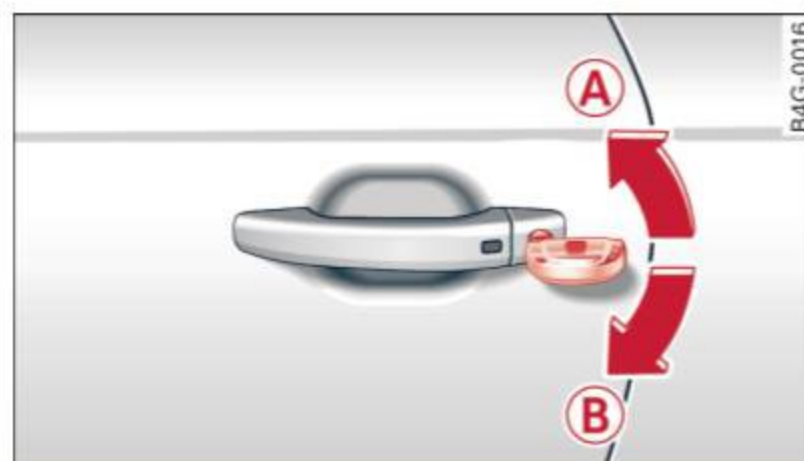

Fig. 31 Key turns for opening and closing
- ▶ Turn the key to position ⇒ *fig. 31* **(A)** until all the windows have reached the desired position and the panoramic tilting sunroof is tilted.